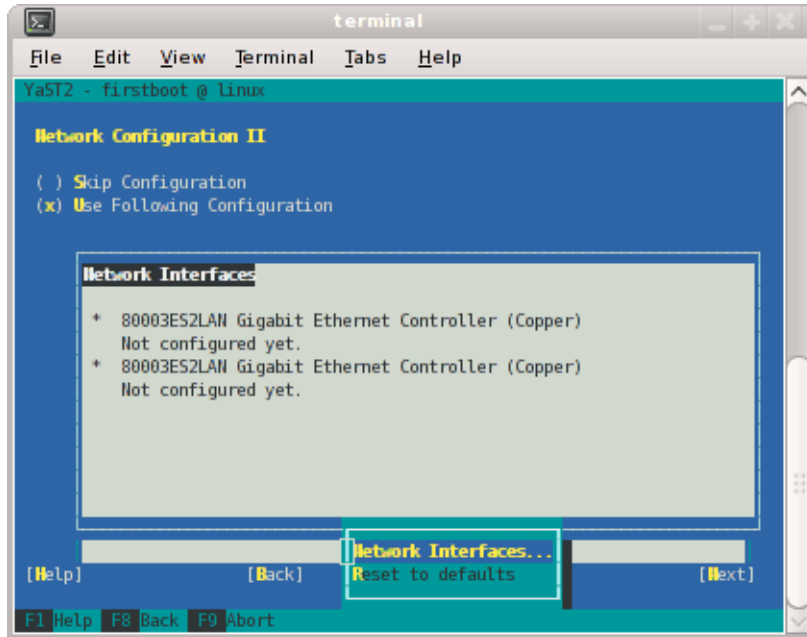

Figure 2-11 Network Configuration II Screen
4. The **Network Configuration II** screen appears, as shown in Figure 2-11 on page 48. Select **Change** and a small window pops up that lets you choose **Network Interfaces...** or **Reset to Defaults**. Choose **Network Interfaces**.